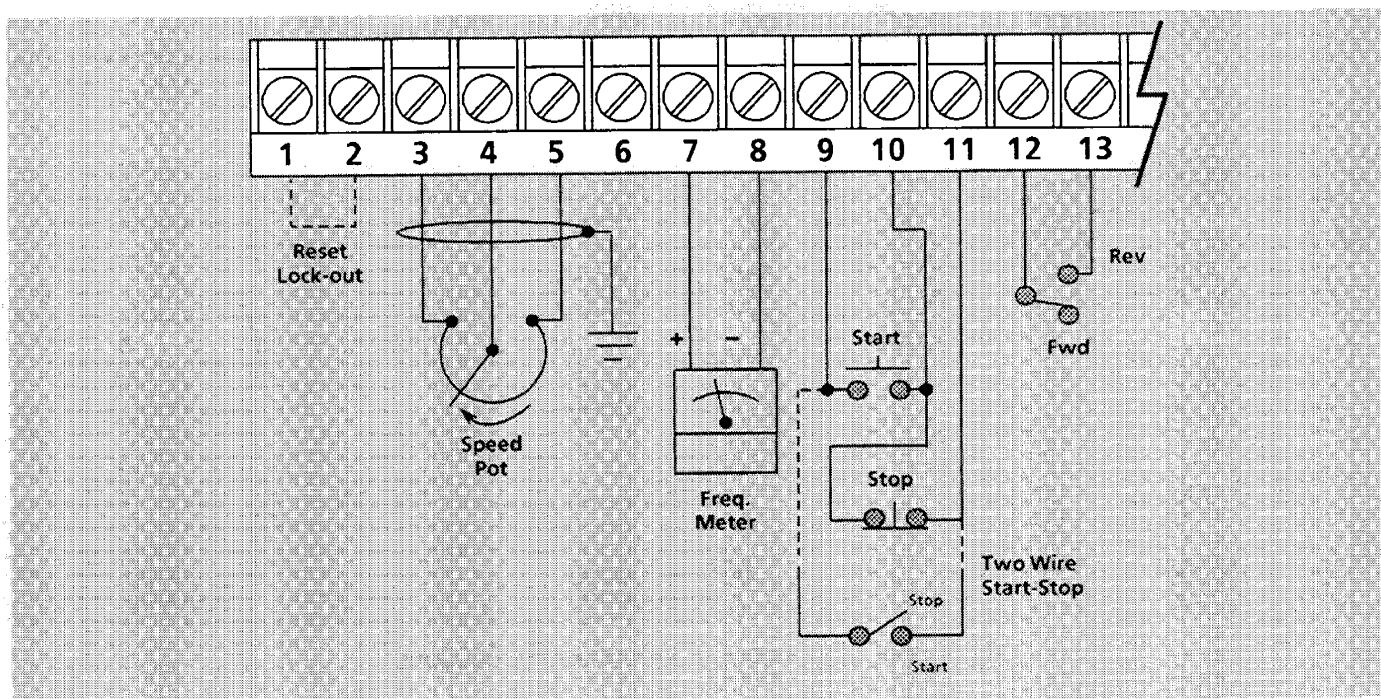

Figure 3-3. Control Terminals Interconnection (Remote Devices)
Connections to the Drive should be made as shown in Figures 3-3 through 3-5, Appendices A, C, D, E and in accordance with any additional interconnection diagrams packed with the Drive.
The control terminals are located at a 22 position terminal block situated on the lower front portion of the Drive, under the enclosure cover. The following explanation indicates the function of terminals 1 through 13. Figure 3-3 indicates the connections made to each terminal.
- 9, 10 & 11: These terminals are designed for remote control of the Drive using either a two wire switch or three wire pushbutton scheme. Switch SW3 on the Local Control Panel must be in the Remote position to allow for Drive remote control. When using a two wire START/STOP switch, a single pole maintained switch or contact must be connected as shown in Figure 3-3.